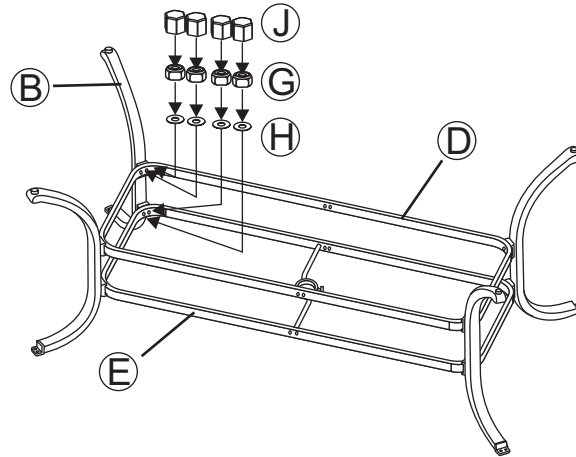

Figure 1
- 1 Attach a table leg to the leg connector bracket-1 & -2 by carefully guiding the bolts already in place on the table legs (each leg has four bolts) through the holes in the leg connector brackets. Add a washer and a nut to the end of each bolt as shown in the **Figure 1**. **Hand tighten 2-3 turns only**. Repeat on the other three legs.
- 2 Attach a middle leg to the leg connector bracket-1 & -2 by carefully guiding the bolts already in place on the middle legs (each leg has four bolts) through the holes in the leg connector brackets. Add a washer and a nut to the end of each bolt as shown in the **Figure 1**. **Hand tighten 2-3 turns only**. Repeat on the other three legs.